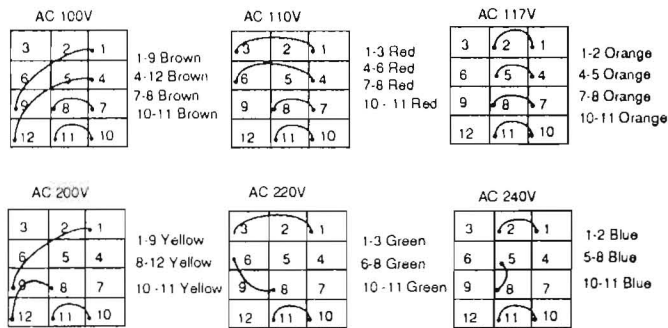

Figure 2-11
2. Referring to the Figure 2-11, find the fuse location.